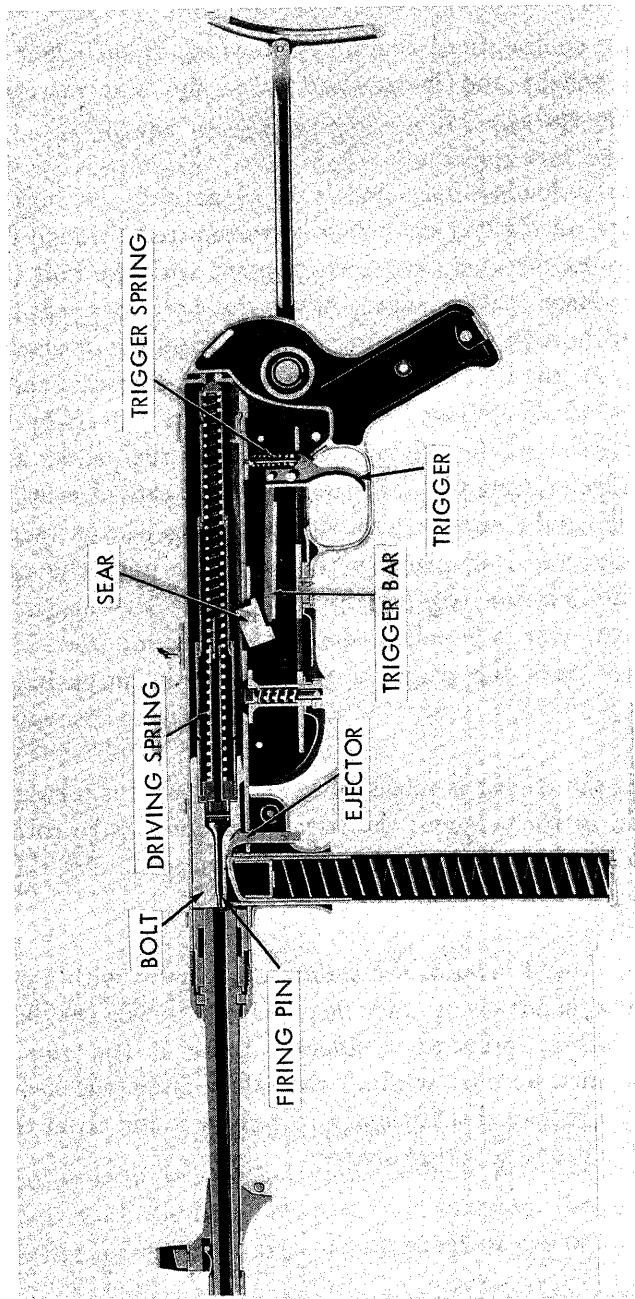

Figure 50. MP40 section.
b. When a loaded magazine is in place and the bolt is cocked, pressure on the trigger, which is transmitted through the trigger bar, rotates the sear out of engagement with the bolt (fig. 50). The compressed driving spring drives the bolt forward; the feed rib on the bolt drives the top cartridge from the magazine into the barrel. As the bolt continues forward, the extractor snaps over the rim of the cartridge, and the firing pin, driven by its inertia and the force of the driving spring, strikes the primer and fires the cartridge. Acting like a piston, the fired cartridge drives the bolt rearward and compresses the driving spring. The extractor holds the cartridge case in place in the bolt face until the case strikes the fixed ejector (fig. 50) in the rear of the magazine housing. Then the case is expelled through the ejection port. This cycle is repeated until the trigger is released or the magazine is emptied.
c. When the trigger is released, its spring moves it forward, and this action, in turn, moves the trigger bar forward to rotate the sear up to a point where the bolt can be engaged, and, thus, the firing can be stopped (fig. 50).